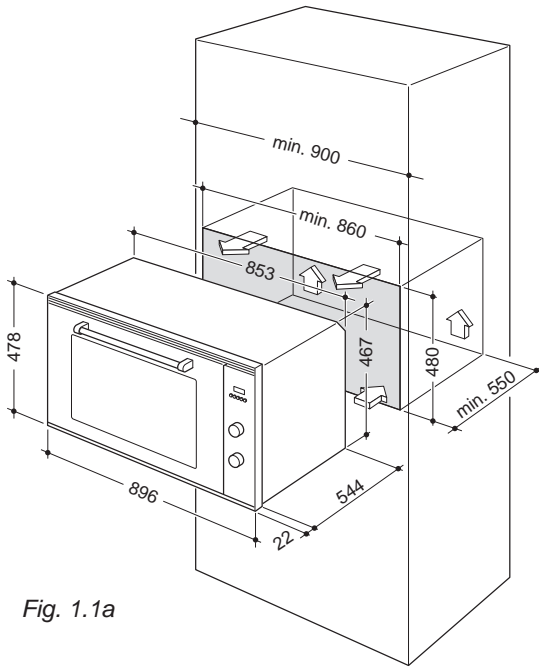

Fig. 1.1a
- Installation requires a compartment as illustrated in figures 1.1a and 1.1b. On the lower side, the oven must lay on supports standing the oven weight.